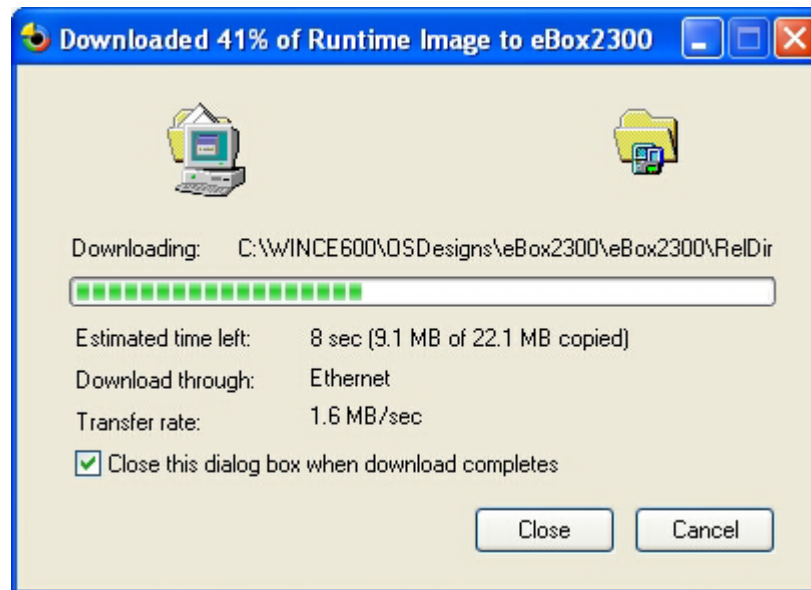

Figure 61. Download Image Window
7. From VS2005 IDE select Target => Attach Device. You should get a window that looks like figure 61.